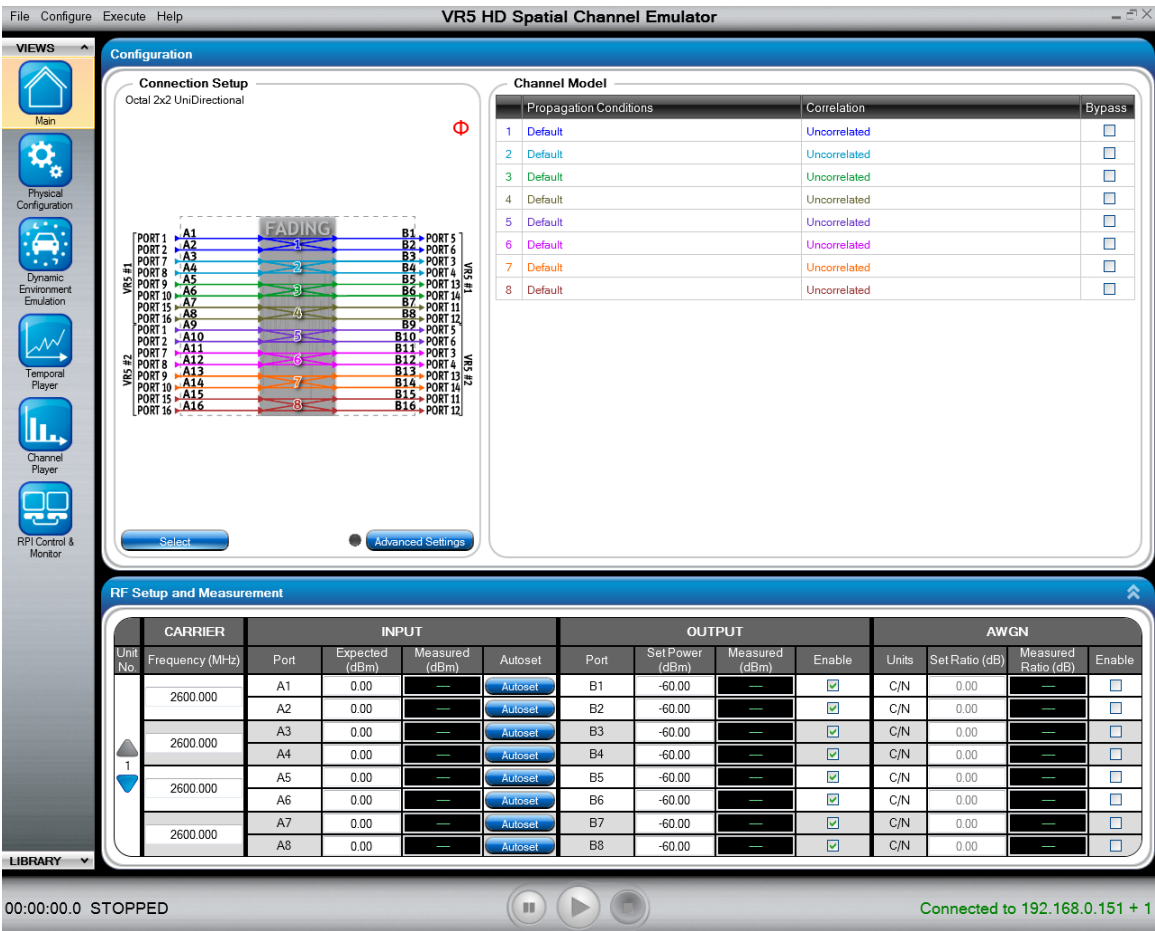

Figure 3-15: VR5 HD Main Window
- 16. The VR5 HD Main window displays, as shown in Figure 3-15.